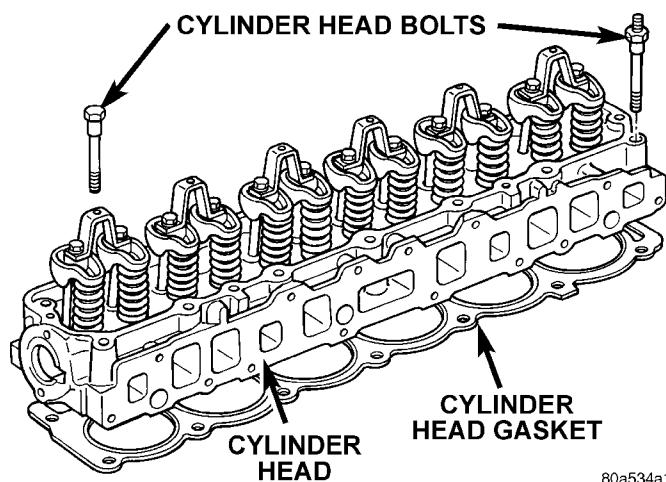

Fig. 36 Engine Cylinder Head Assembly
(6) Remove the push rods. **Retain the push rods, bridges, pivots and rocker arms in the same order as removed.**
(7) Loosen the accessory drive belt at the power steering pump. (Refer to Group 7, Cooling System for the correct procedure). Slip the belt off of the power steering pulley.
(8) Remove the air conditioning compressor mounting bolts and secure the compressor to the side.
(9) Remove the power steering pump and bracket from the intake manifold and water pump. Set the pump and bracket aside. **DO NOT** disconnect the hoses.
(10) Perform the Fuel System Pressure Release procedure. (Refer to Group 14, Fuel System)
(11) Disconnect the fuel supply line at the fuel rail. (Refer to Group 14, Quick-Connect Fittings for the correct procedures)
(12) Remove the intake and engine exhaust manifolds from the engine cylinder head. (Refer to Group 11, Exhaust System and Intake Manifold for the proper procedures)
(13) Disconnect the ignition wires and remove the spark plugs.
(14) Disconnect the temperature sending unit wire connector.
(15) Remove the ignition coil and bracket assembly.
(16) Remove the engine cylinder head bolts. Bolt No.14 cannot be removed until the head is moved forward (Fig. 36). Pull bolt No.14 out as far as it will go and then suspend the bolt in this position (tape around the bolt).
(17) Remove the engine cylinder head and gasket (Fig. 36).
(18) If this was the first time the bolts were removed, put a paint dab on the top of the bolt. If the bolts have a paint dab on the top of the bolt or it isn't known if they were used before, discard the bolts.
(19) Stuff clean lint free shop towels into the cylinder bores.